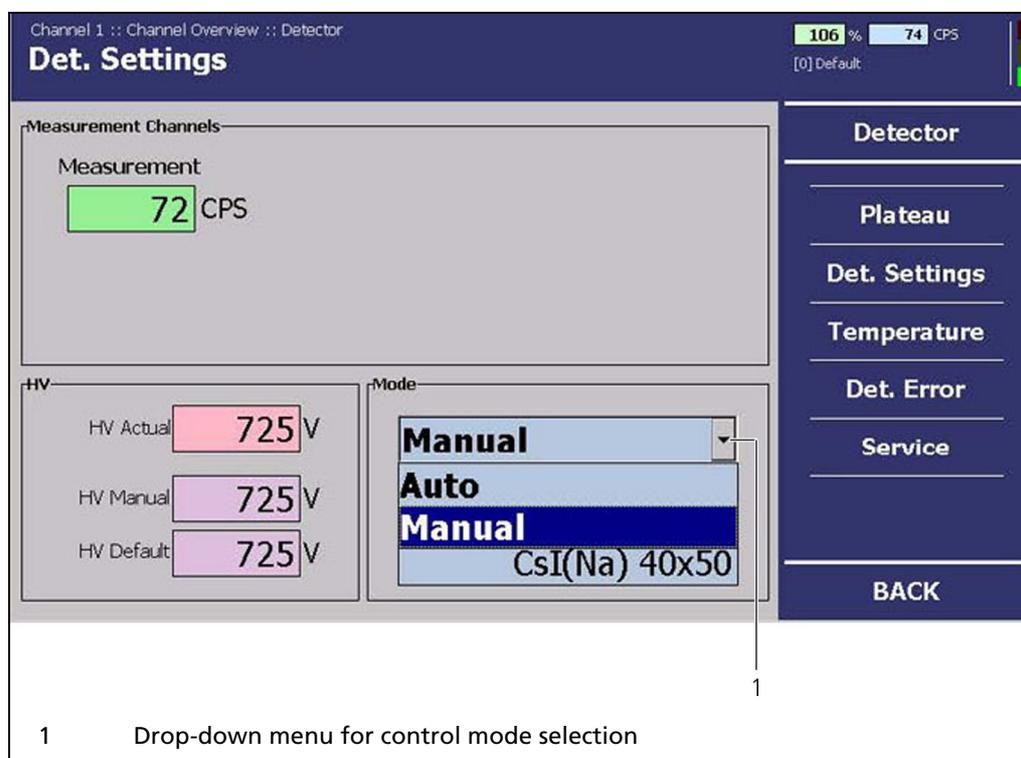

Fig. 26 "Channel Overview" menu, Detector - Detector Settings
1. Click on the drop-down menu (Fig. 26, pos. 1).